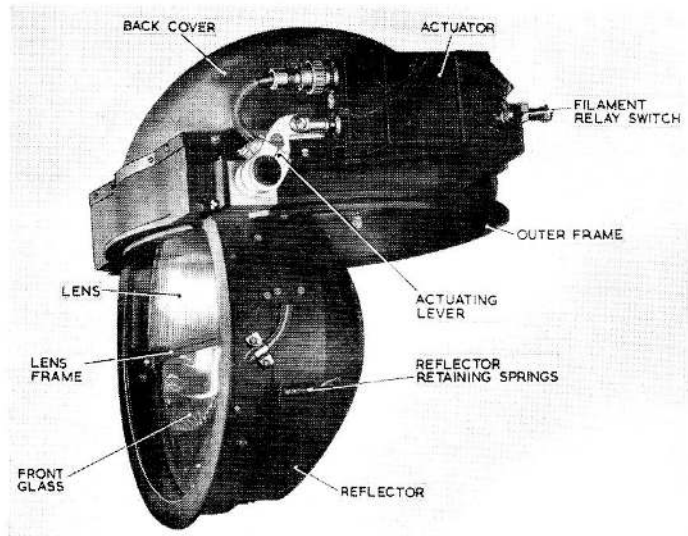

Fig. 1. Landing lamp, Harley, Type 11, Mk. 9
1. The Harley Landing lamp, Type 11, Mk. 9 (*fig. 1*) fits into a circular aperture under the wing of certain military aircraft. It can be extended for use at airspeeds up to 150 Knots by a linear actuator remotely controlled by switches and relays. The variation of beam for landing or taxiing is obtained by the selection of one of the two filaments within the bulb. A general chapter on landing lamps may be found in A.P.4343, Vol. 1, Sect. 21.